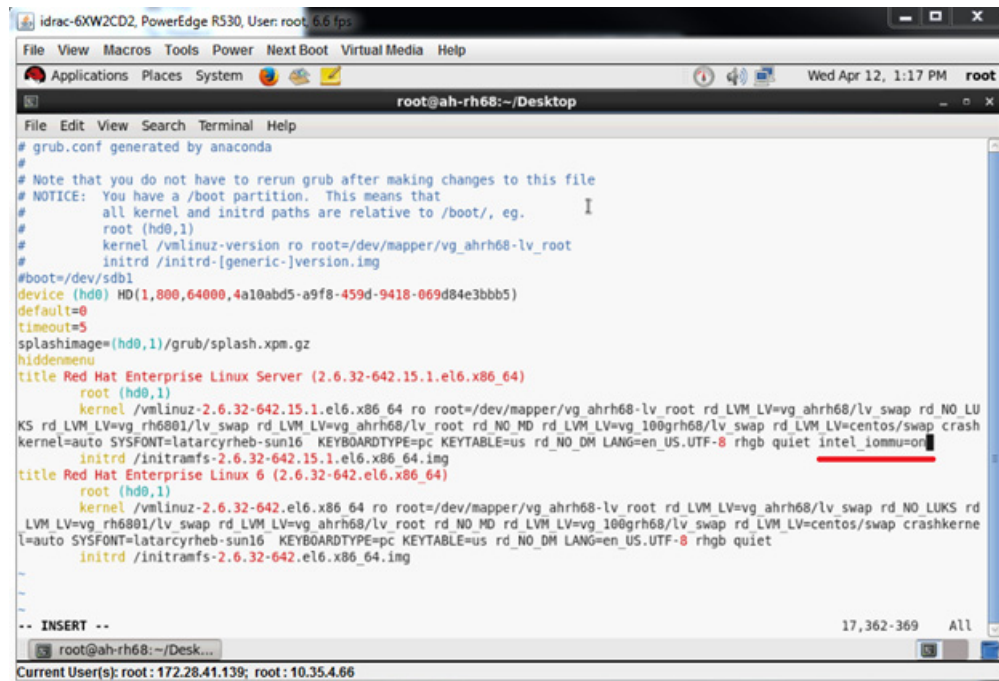

Figure 12-10. Editing the grub.conf File for SR-IOV
- a. Open the `grub.conf` file and configure the `iommu` parameter as shown in Figure 12-10. (For details, see “Enabling IOMMU for SR-IOV in UEFI-based Linux OS Installations” on page 229.)